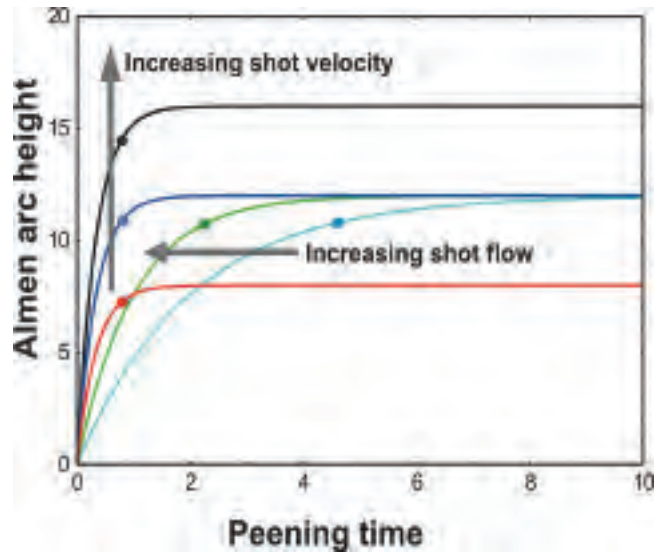

Fig.1 Effects of shot velocity and flow rate on position of 'saturation point'.
Shot streams with different indenting ability will give different 'saturation curves'. With increase in shot velocity (and therefore of indenting ability) there is a corresponding increase in curve height, see fig.1. We should also note that the greater the shot flow the quicker will be the increase in arc height. That means that we can have different saturation curves without any difference in indentation ability.
curve there is only one such point – shown as dots in fig.1. It should be emphasized that **the saturation point is not a data point**, it is a **derived point**. The saturation intensity is a defined high-curvature point of the saturation curve. There are alternative 'characteristic points'. Mathematically-minded readers will note that the curve's curvature at the 'saturation point' is close to the 'point of maximum curvature'. If we know the mathematical equation for the curve we can derive the point of maximum curvature by solving a relationship that includes the first and second derivatives of the curve's equation.
illustrates these relationships for equation (1). The similarity with fig.1 is not coincidental!